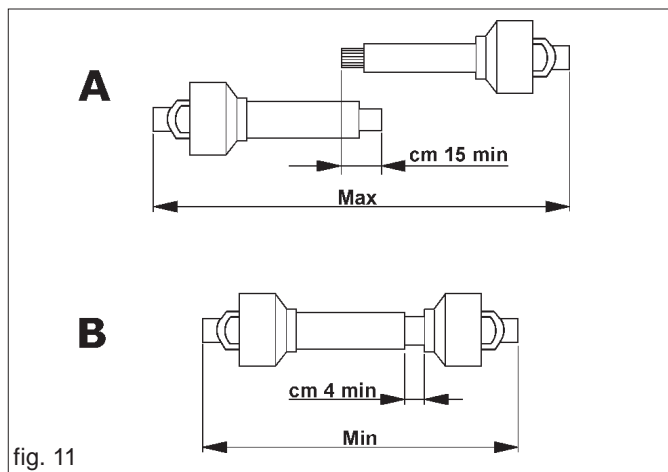

fig. 11
- When the Cardan shaft is withdrawn to the end of its stroke, the two pipes should overlap by at least 15 cm (A Fig. 11). When it is inserted all the way, the minimum admissible play is 4 cm (B Fig. 11).